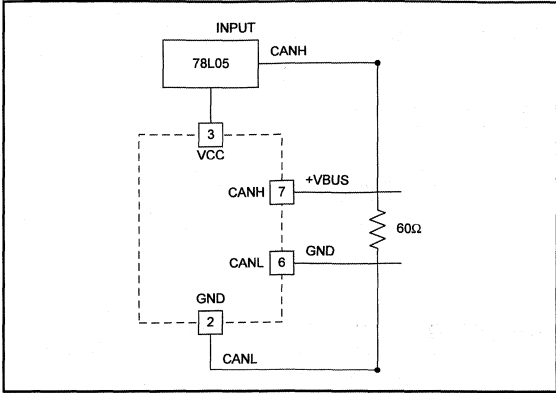

Figure 9. Crosswire No. 1
*Refers to Figures 9, 10, 11, 12 and 13.